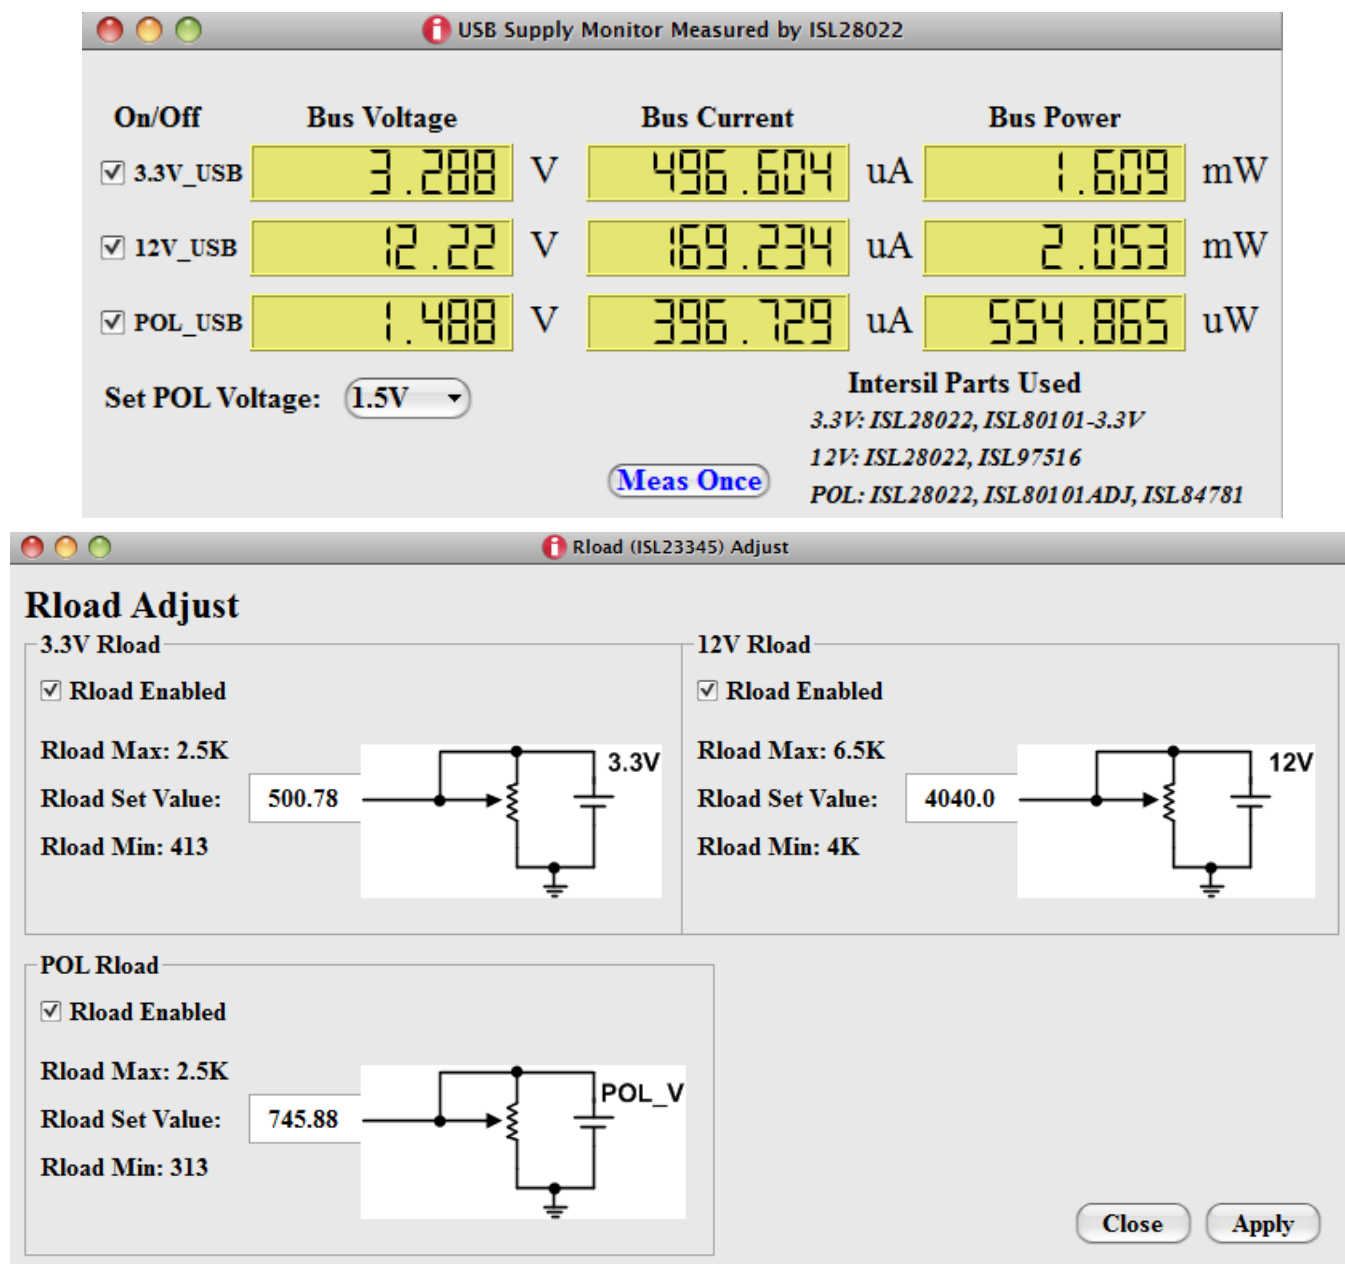

FIGURE 5. (A) TOP: ISL28022 USB SUPPLY MONITORING WINDOW. (B) BOTTOM: R_{LOAD} BOARD SOFTWARE WINDOW. THE WINDOW CONTROLS THE DIGITALLY CONTROLLED RESISTORS
- Mouse to the Demo drop down menu and select the R_{LOAD} selection. Two windows will appear. A USB supply monitor window and a R_{LOAD} window. The two windows are shown in Figure 5. The USB supply monitor reports the current, voltage and power of the supplies sourced from the USB Dongle by pressing the “Meas Once” button. The USB Supply Monitor window allows the user to select the point of load (POL) voltage sourced by the dongle via a combo box. The POL voltage ranges from 2.5V to 0.8V. The AUX POL selection allows a user to generate a unique voltage that is not offered by the pre-configured ranges. The Aux voltage is configured by soldering a resistor to R7 of the Dongle board. Use Equation 1 to configure the Aux voltage.
- The R_{LOAD} board connects a load to the USB generated supplies sourced by the dongle board. A jumper selects the source of the load. Shorting pins 1 and 2 of each supply routes the load to the digitally controlled potentiometer (DCP). The DCP is controlled through an I^2C interface. R_{LOAD} window controls the DCP's value for each supply. Enter a value within the resistance range (Figure 5\(B\)), for the respective supply DCP and press the “Apply” button. The value will be set accordingly to the nearest value. In the USB supply monitor window (Figure 5\(A\)), press the “Meas Once” button and the measured current will change accordingly for the resistance values that were changed.